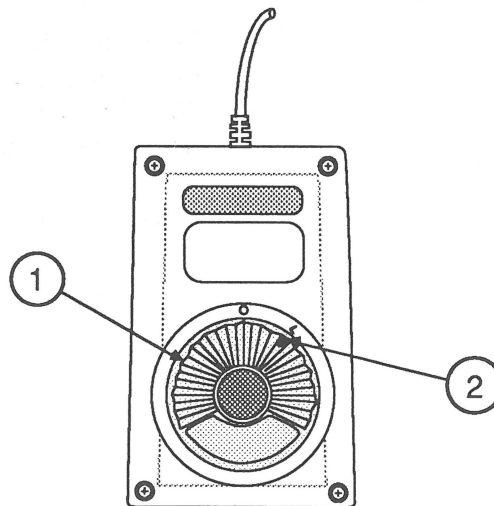

FIGURE 1
2. Turn the mouse upside down, and rotate the circular plastic dial (Figure 1, #1) counterclockwise as far as it will go. The dial indicator (Figure 1, #2) should then point to the "O" on the mouse surface.